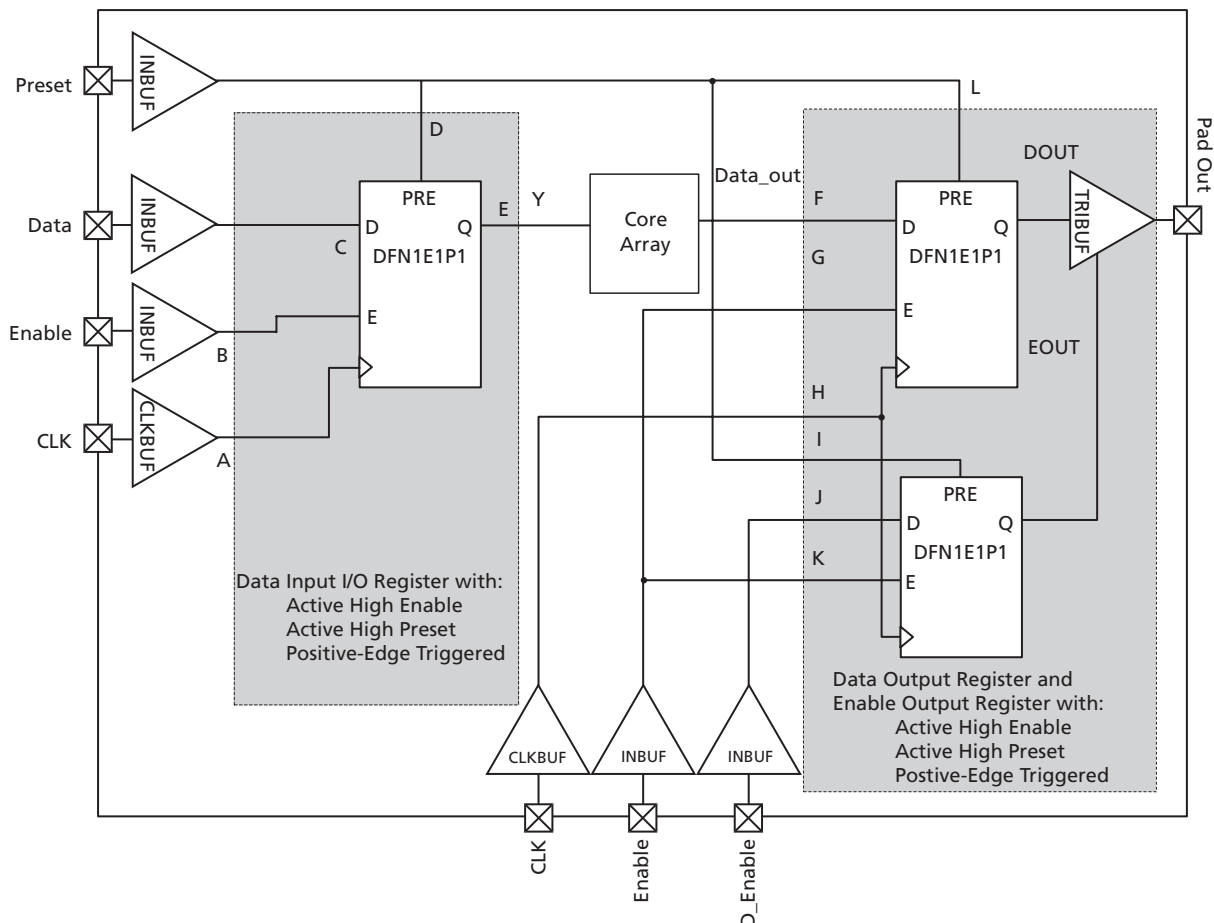

Figure 2-26 • Timing Model of Registered I/O Buffers with Synchronous Enable and Asynchronous Preset
* See Figure 2-26 on page 2-74 for more information.